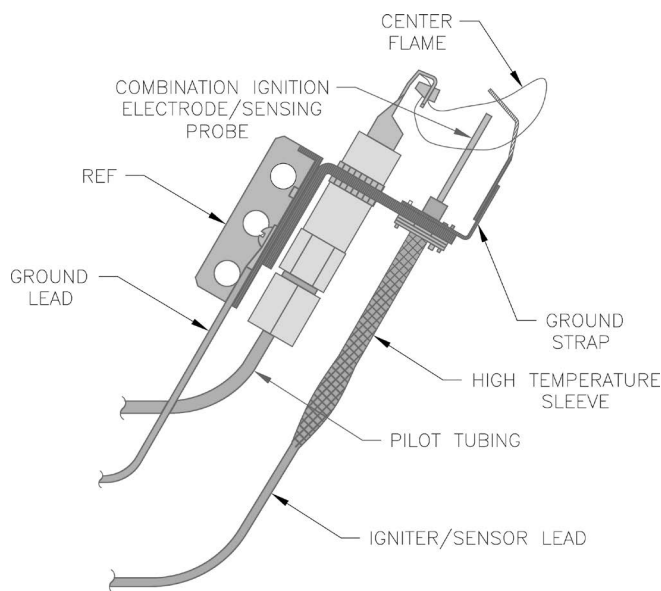

Figure 10-4: LP Gas Pilot Flame
LP Gas Only. Pilot burner produces three (3) flames. The center flame should be steady, medium hard blue enveloping 3/8 to 1/2 inch of sensing probe. See Figure 10-4.